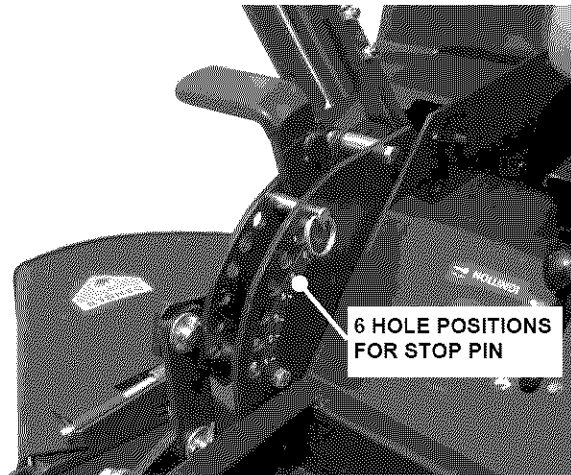

FIGURE 3.11
2. Insert the stop pin to desired cutting height. See Figure 3.11.